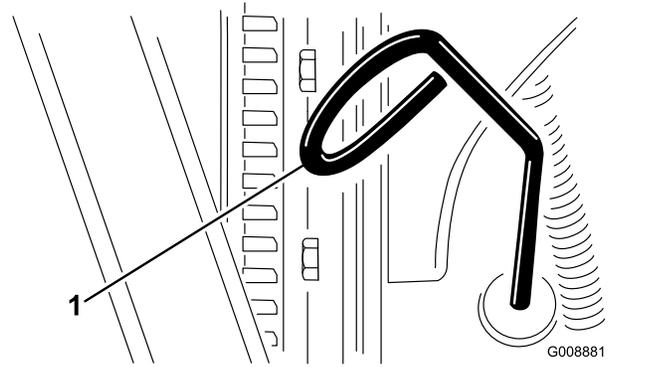

Figure 68
3. Remove the dipstick (Figure 68) and wipe it with a clean rag.